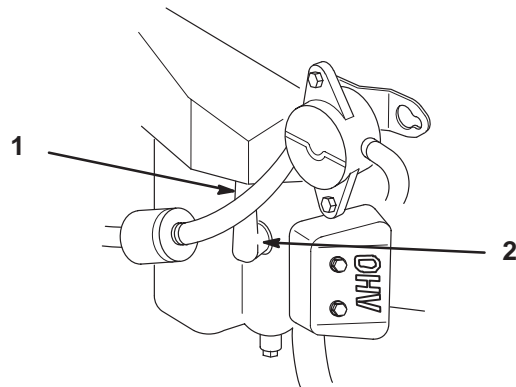

Figure 23
2. Pull the wire(s) off of the spark plug(s) (Fig. 23). Clean around the spark plug(s) to prevent dirt from falling into the engine and potentially causing damage.
3. Push the wire(s) onto the spark plug(s) (Fig. 23).